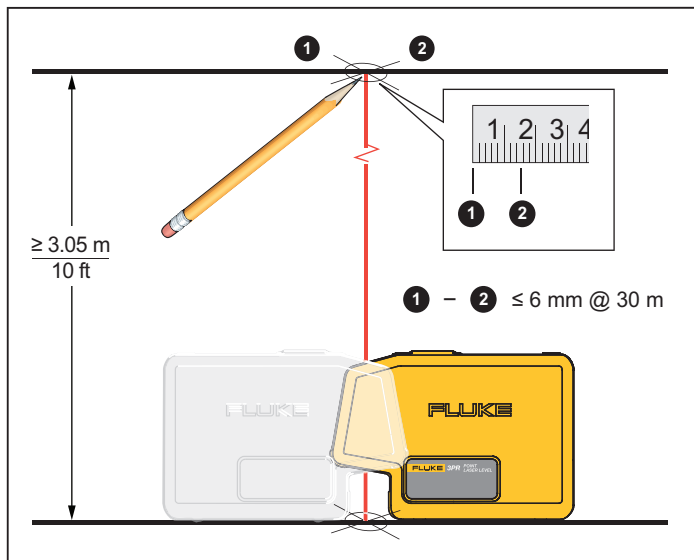

Figure 6. Plumb Accuracy
3. Center the down laser on both axes of the cross mark. See Figure 6.